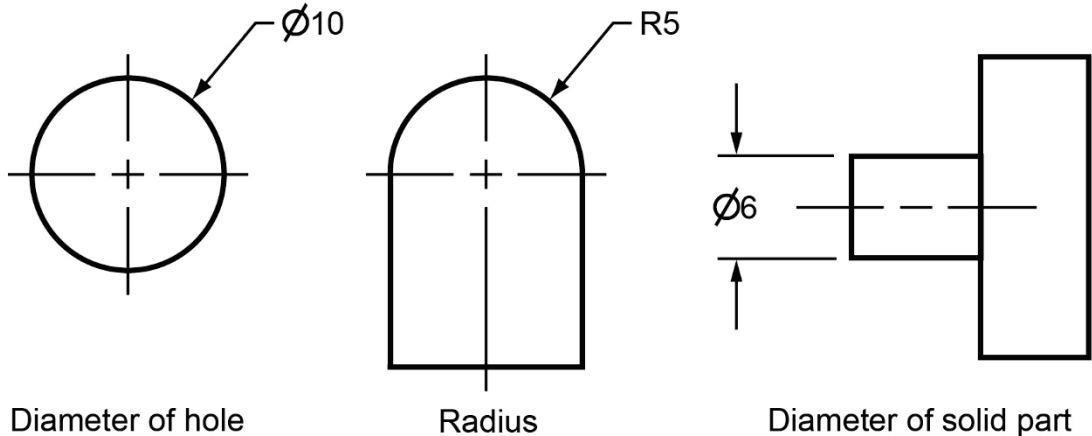

Figure 7.4-1: Diameter and radius dimensions
- a) A circle is dimensioned by its diameter and an arc by its radius using a leader line and a note or linear dimension. Diameter dimensions of solid parts, such as a cylinder, is given as a linear dimension. A diameter dimension is preceded by the symbol " \varnothing ", and a radial dimension is preceded by the symbol "R". On older drawings you may see the abbreviation "DIA" placed after a diameter dimension and the abbreviation "R" following a radial dimension. Figure 7.4-1 illustrates the diameter and radius dimensions.